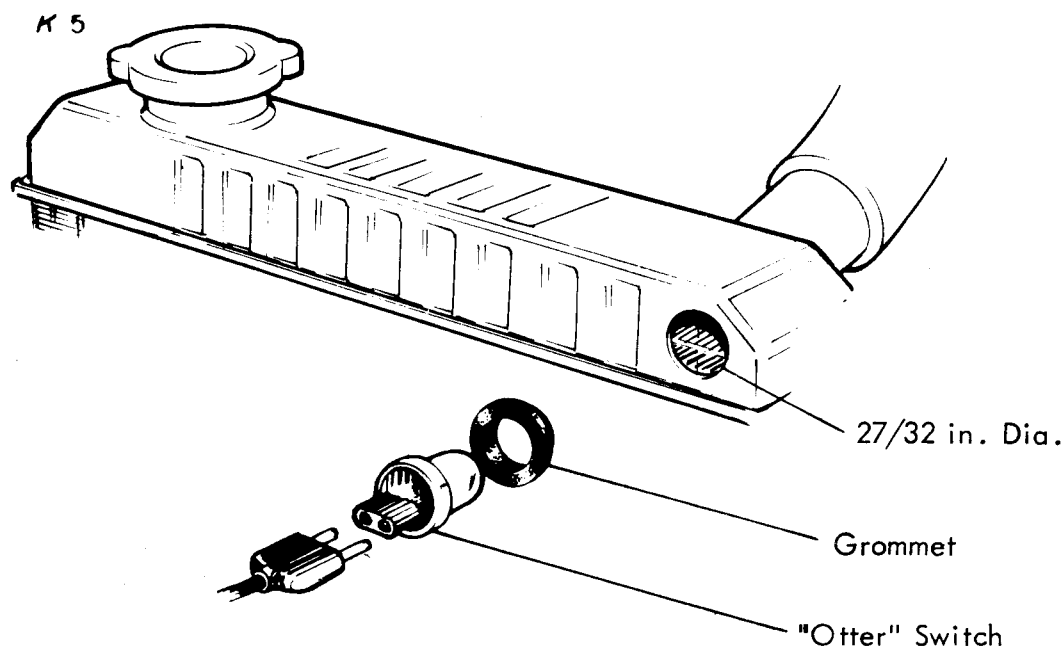

Fig. 6 "OTTER" THERMAL SWITCH
- c. Using a hole-saw, cut a 27/32 in. diameter hole in the front left-hand corner of the top of the radiator (see Fig. 6).